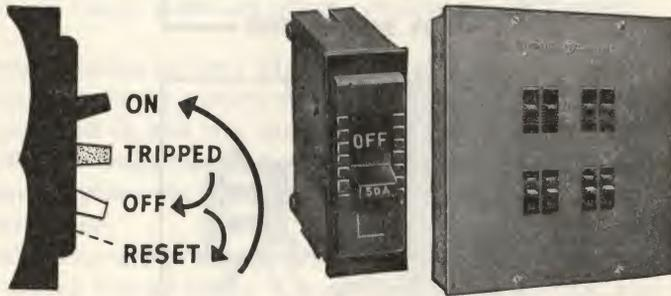

Fig. 5-5. A single circuit-breaker, together with an assembly of eight in one cabinet. When breaker trips, reset as shown in picture above.
**Circuit-Breakers:** More and more circuit-breakers are being used in place of fuses. A circuit-breaker looks something like a toggle switch, with a handle that lets it be used just like a switch to turn power on and off. See Fig. 5-5 which shows a single unit, also an assembly of eight breakers. Inside each unit is a fairly simple mechanism which in case of overload,